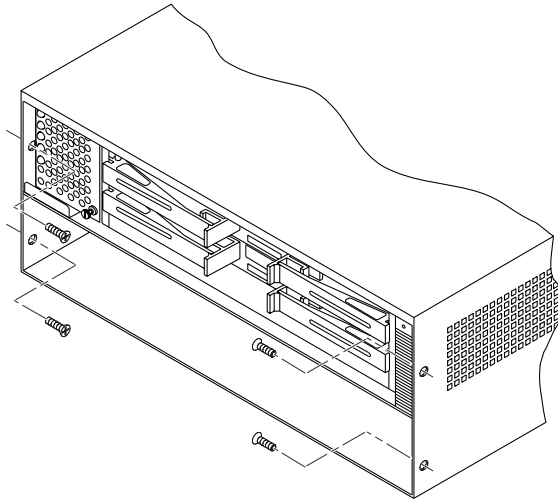

FIGURE 2-7 Installing the Controller Module Chassis
3. Install a #10 screw in each side of the battery canister opening (FIGURE 2-7).